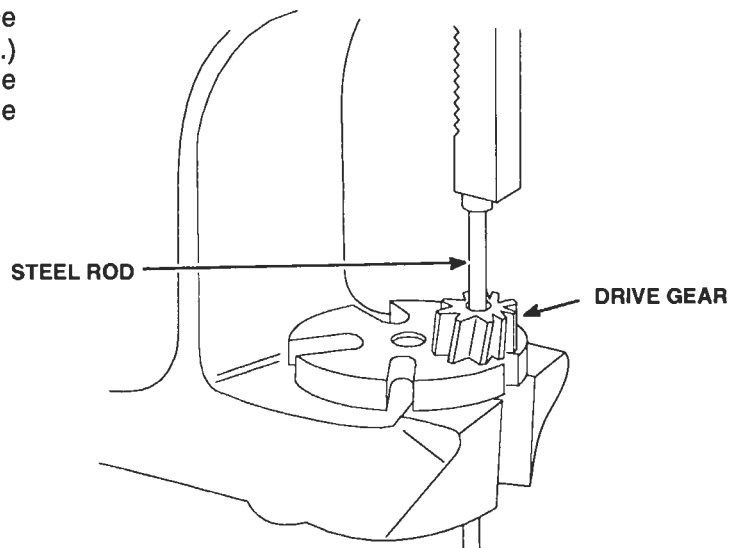

Figure 5. Removing Oil Pump Drive Gear from Shaft
14. If the drive gear is to be replaced, position the gear and shaft assembly on the bed of an arbor press with the long end of shaft extending down through the slot in bed plate and with the face of the gear resting on the plate (Figure 5.) Place a short 1/2 inch round steel rod on the end of the shaft, and press the shaft from the gear.